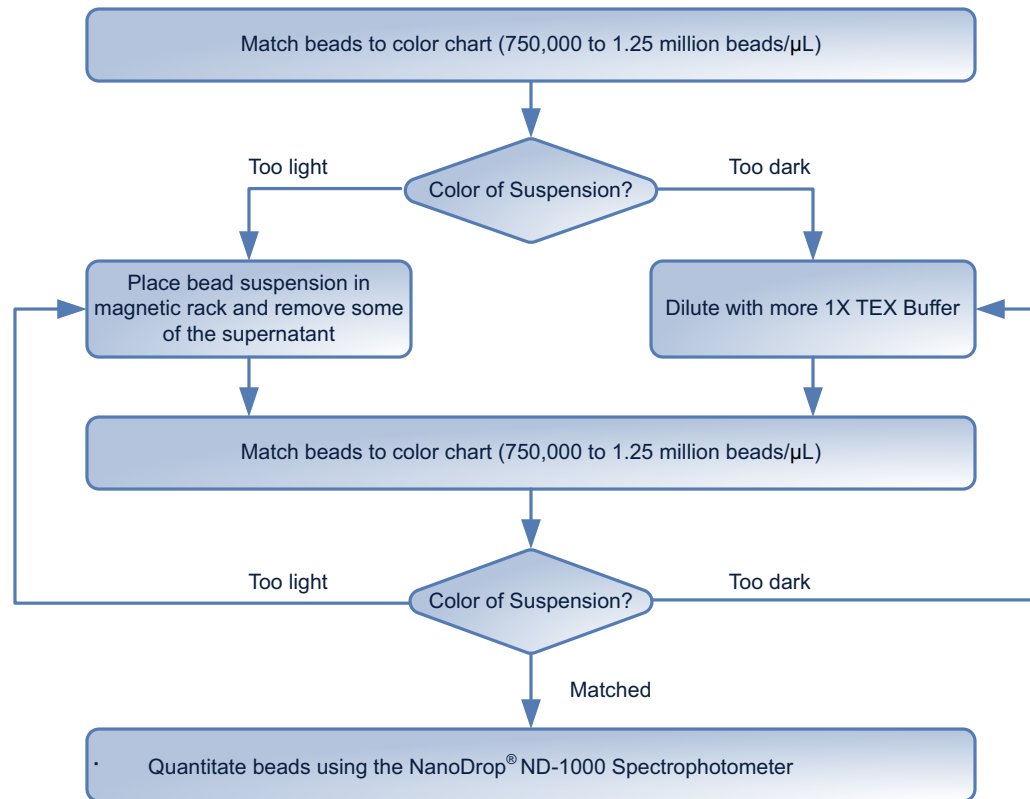

Figure 36 The SOLiD™ Bead Concentration Chart workflow.
4. Adjust the volume of beads so that the color of the bead solution matches a color in the optimal range (750,000 beads/ μL to 1.25 million beads/ μL ; see Figure 36 on page 68 for the workflow).